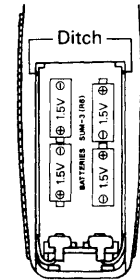

Fig. 4
- 1-2 Place four SUM-3 (R6) batteries into the battery compartment with the direction of their polarities correctly arranged as shown in Fig. 4. In this case, battery attachment can be done easily if the innermost two batteries are attached first.
- 1-3 Place the battery cover on the ditch as shown in Fig. 4. Undo the battery cover by pushing it up in a sliding mode.